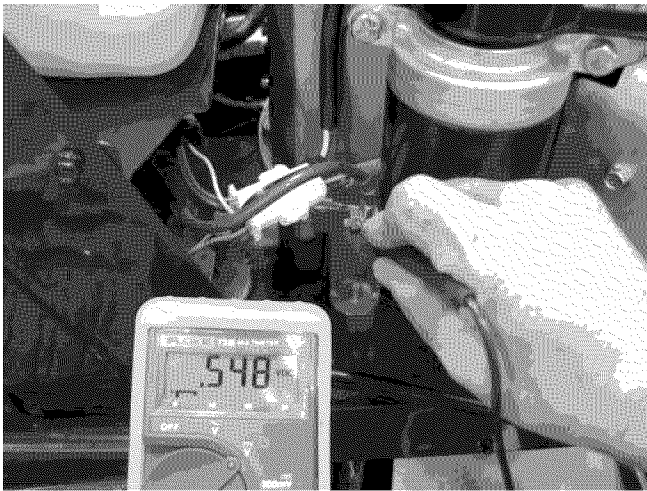

Figure 7.50
10. Applying this principle to the positive side of the system. See Figure 7.50.